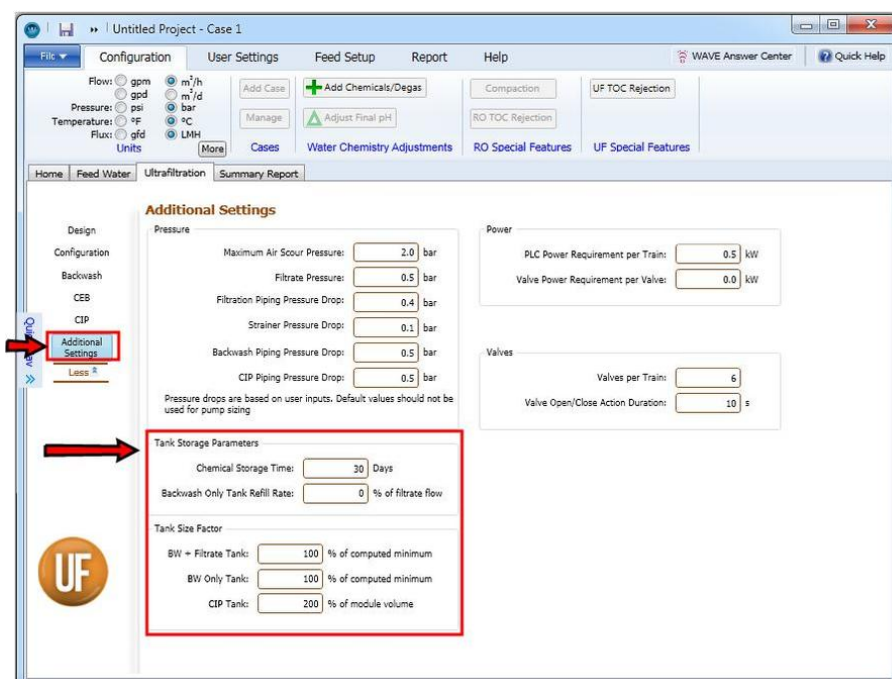

Figure 108. Tank specifications for UF modelling in WAVE
WAVE makes possible the specification of actual tank sizes vs calculated minima in the Tanks Window as shown in Figure 108.
- WAVE allows the user to specify how big a safety factor for the tanks the user needs as shown in Figure 108. Any changes to these entries would result in recalculation of the tank volumes shown in the UF System Diagram.